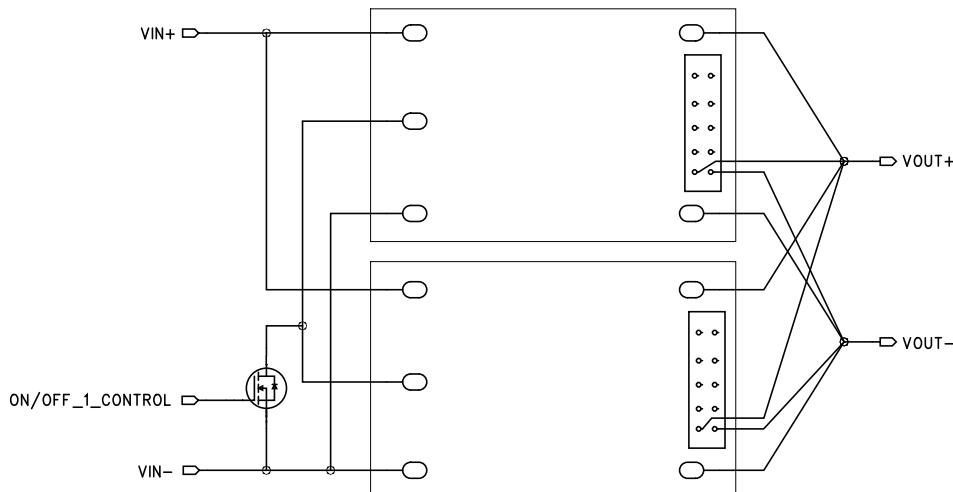

Figure 2. Load Sharing Block Diagram
Two or more converters may be connected in parallel at both the input and output terminals to support higher output current (total power, see figure 2) or to improve reliability due to the reduced stress that results when the modules are operating below their rated limits. For applications requiring current share, followed the guidelines below. The products have a pre-configured voltage droop. The stated output voltage set point is at no load. The output voltage will decrease when the load current is increased. The voltage will drop 0.35V while load reaches max load. Our goal is to have each converter contribute nearly identical current into the output load under all input, environmental and load conditions.
- +Vout and -Vout of all parallel units should be connected with a balance output impedance; +Sense and -Sense should be connected together (see figure 2).